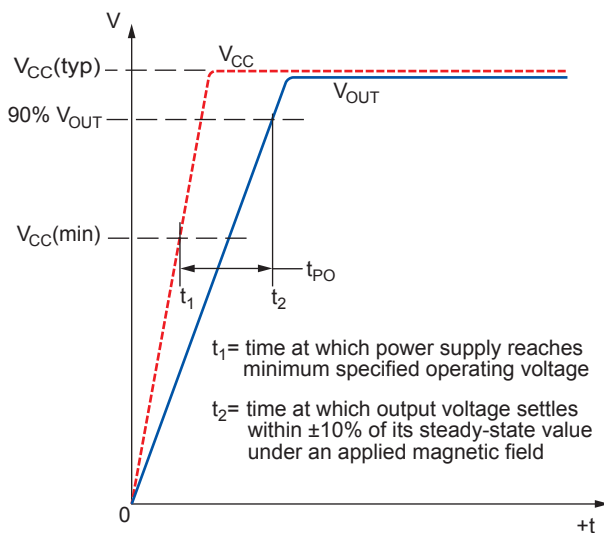

Figure 1. Definition of Power-On Time,  $t_{PO}$
**Power-On Time.** When the supply is ramped to its operating voltage, the device output requires a finite time to react to an input magnetic field. Power-On Time,  $t_{PO}$ , is defined as the time it takes for the output voltage to begin responding to an applied magnetic field after the power supply has reached its minimum specified operating voltage,  $V_{CC(min)}$ , as shown in figure 1.